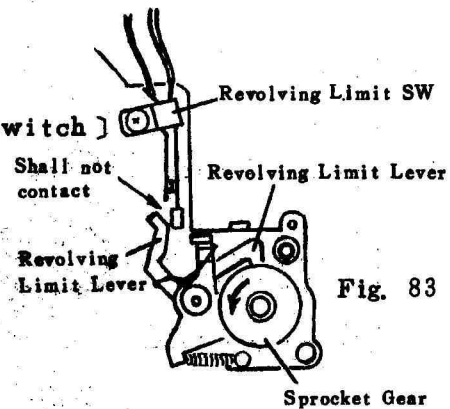

Fig. 83
- a) During the revolution of the Sprocket shaft, the Revolving Limit Lever and the Revolving Limit Switch shall not be in contact. (See Fig. 83)